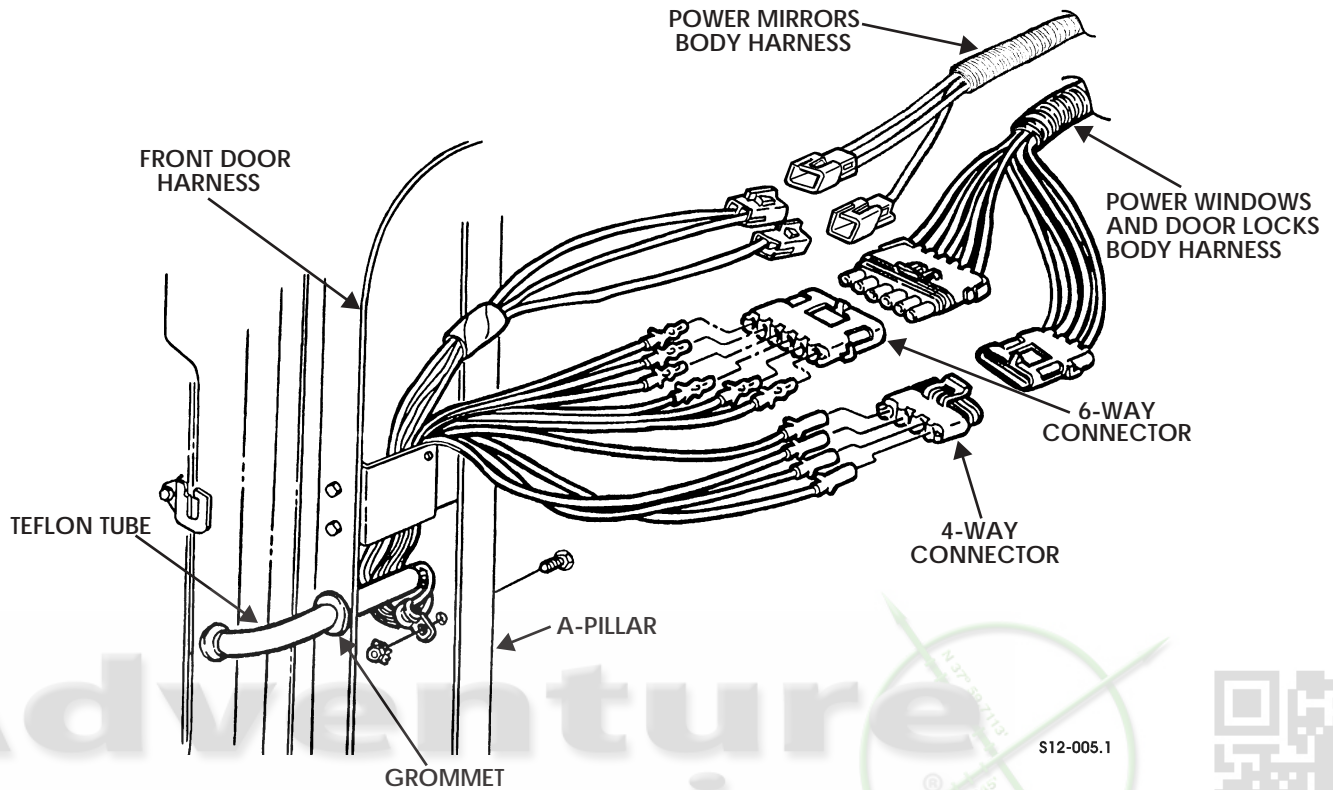

Figure 13-86: Power Windows and Door Locks Harness
3. Route harness through A-pillar rubber grommet (Figure 13-86).
8. Connect two harness connectors to power mirrors door jumper harness connectors (Figure 13-86)